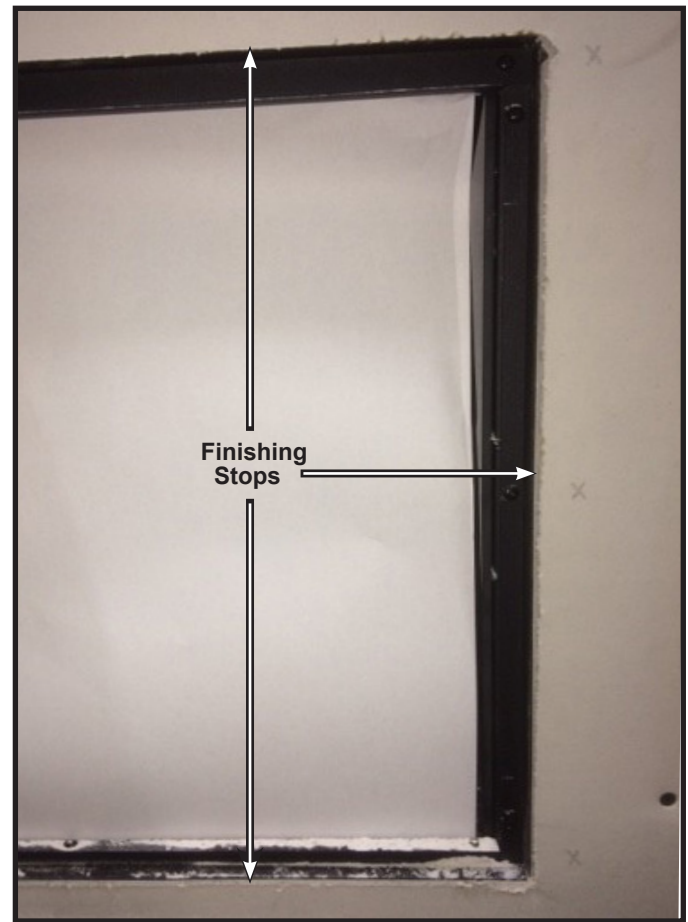

Figure 4.5 Wall Finishing Stop Locations and Dimensions
3. If finishing with painted drywall, install ½ in. thick gypsum wallboard so that it mates with the finishing stops around the appliance opening. See Figure 4.5.
4. If finishing with another desired facing material up to 9/16 in. total thickness, install the material so it mates with the finishing stops around the appliance opening. See Figure 4.5.
4. Complete finishing of the wall around the appliance. Decorative facing materials can be installed up to the finishing stops. See Figure 4.5. There is no limitation to thickness of facing materials.